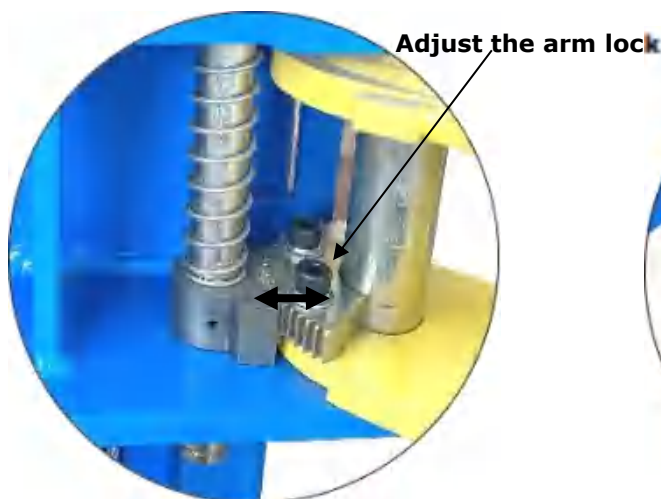

Fig. 46
3. Adjust the arm lock as direction of arrow (**See Fig. 46**)